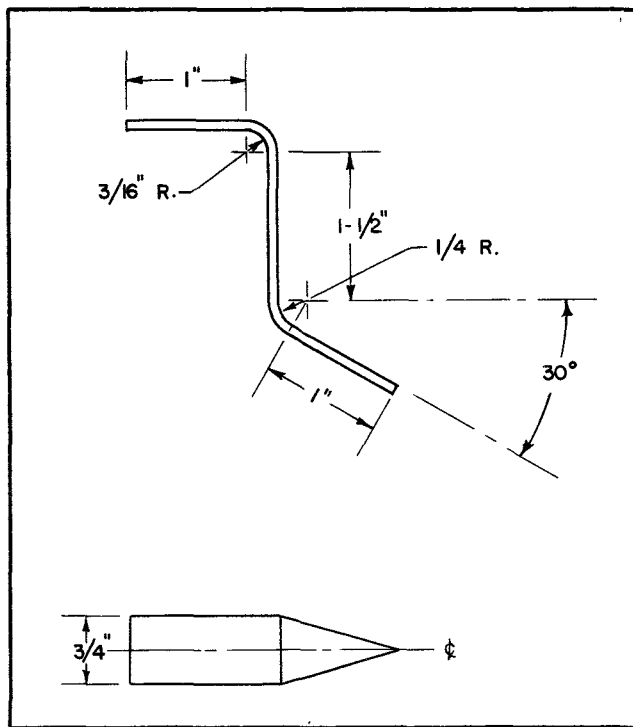

Figure 2
(1) The pointer can be of any metallic material that is rigid, yet capable of being bent. The length will depend on the type of aircraft installation. The diameter can be of any convenient size but must be uniform throughout the length of the pointer. Inscribe a mark in the exact center on both ends of the pointer. (See figure 2.)